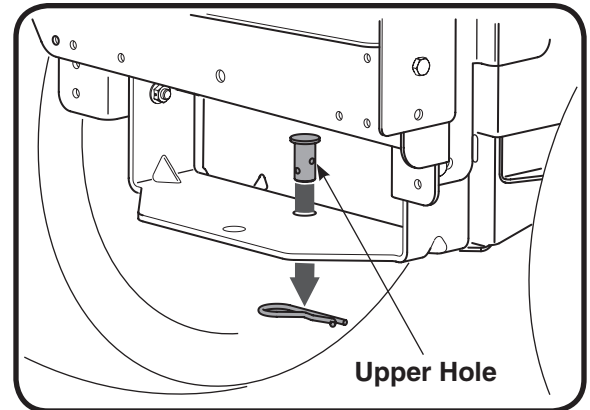

Figure 6
4. Reinsert the clevis pin through the aligned holes in both the bracket assembly and the hitch plate and secure with the hairpin clip removed earlier. Refer to Figure 6.